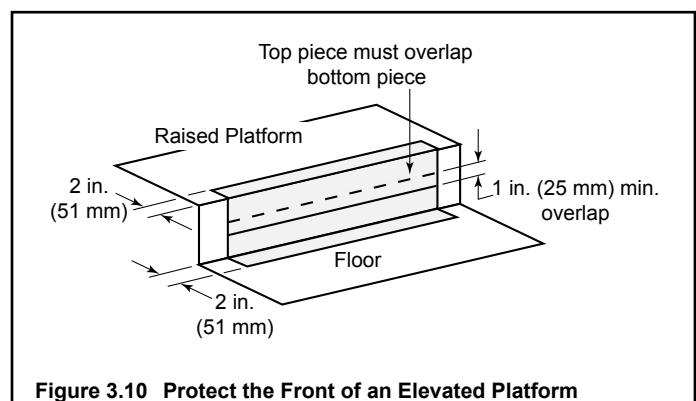

Figure 3.10 Protect the Front of an Elevated Platform
- Protect the front of a platform elevated above the hearth extension with metal strips (not included with fireplace) per Figure 3.10. See Section 7 for hearth extension instructions.